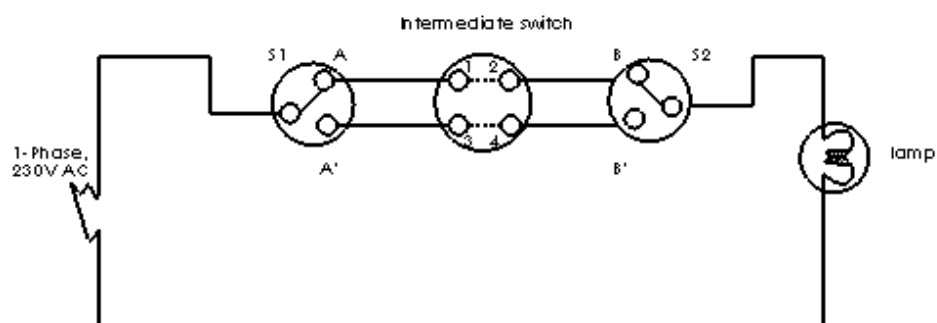

Figure 12.2: Circuit diagram of three-way control of lamp
12.2 Draw the electrical circuit diagram of three-way control of lamp as shown in Figure 12.2